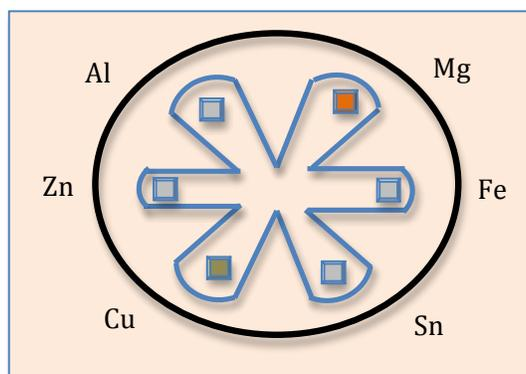

Figure 2.
2. Obtain a small plastic bag that contains pieces of the six metals to be used. Carefully sand each flat piece of metal on both to remove oxides. Then place them on the filter paper, as shown in Figure 2.